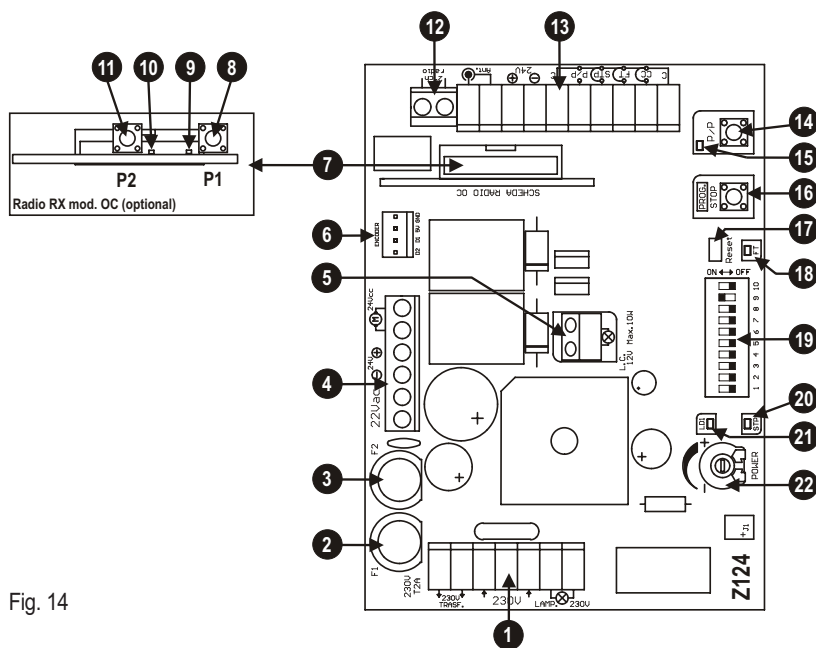
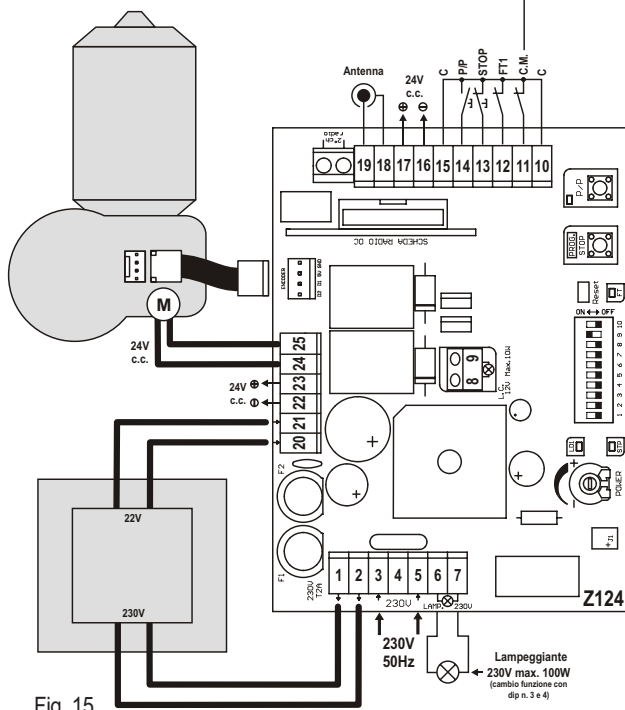

Fig. 14
Fig. 15
For connections, refer to tables 1 and 2 and figure 15.
- 1) Keep the PROG key pressed. Use a screwdriver to short the jump Reset (detail 17 of fig. 14).
- 9) To return to normal operating mode, reset the control unit (short the connector, detail 17 of fig.14)
During the self-learning phase, the key S/S is pressed repeatedly (detail 14 of fig. 14), alternatively the control S/S control can be used (terminal 14, fig. 15) or the radio transmitter memorised on the first channel of the receiver.
- **Low speed** if dipswitch 9 is set to ON (detail 19 of fig. 14).
- 2) Press and hold PROG to reset, and use a screwdriver to short the jump Reset (detail. 17 of fig. 14).
- ✓ If the control unit shuts down the motor before complete closure, repeat programming, increasing the power setting (detail 22 of fig. 14).